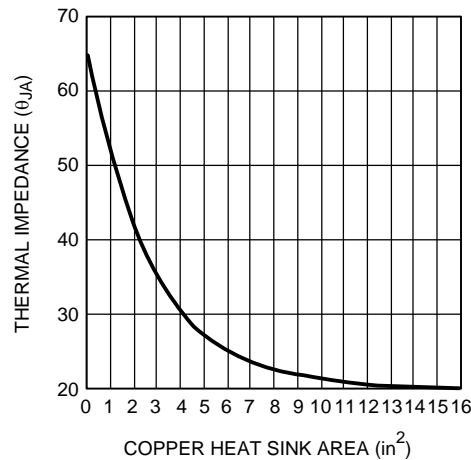

Figure 31. Thermal Resistance (Typ) for 5 Lead DDPAK/TO-263 Package Mounted on 1 Ounce of Copper
The DSDPAK/TO-263 package has excellent thermal characteristics. To minimize thermal impedance, its exposed die attach paddle should be soldered to a circuit board copper area for good heat dissipation. Figure 31 shows typical thermal resistance from junction to ambient as a function of the copper area. The DDPAK/TO-263's exposed die attach paddle is electrically connected to the V_{EE} power supply pin.
If a heat conductive copper plane has perfect thermal conduction (heat spreading) through the plane's total area, the temperature rise is inversely proportional to the total exposed area. PCB copper planes are, in that sense, an aid to convection. These planes, however, are not thick enough to ensure perfect heat conduction. Therefore, eventually a point of diminishing returns is reached where increasing copper area offers no additional heat conduction to the surrounding air. This is apparent in Figure 31. 2 oz copper boards will have decrease thermal resistance providing a better heat sink compared to 1oz. copper. Beyond 1oz or 2oz copper plane areas, external heatsinks are required. Ultimately, the 1oz copper area attains a nominal value of 20°C/W junction to ambient thermal resistance (θ_{JA}) under zero air flow.
5. θ_{JA} as a function of copper area in square inches is shown in Figure 31. Choose a copper area that will ensure the specified $T_{J(MAX)}$ for the calculated θ_{JA} . The maximum value of junction to ambient thermal resistance, θ_{JA} , is defined as:
4. Finally, choose the minimum value of copper area from Figure 31 based on the value for θ_{JA} .
Examining the Copper Area vs. θ_{JA} plot (see Figure 31) indicates that a thermal resistance of 21.4°C/W is possible with a $8\text{--}10\text{in}^2$ plane of one layer of 1oz copper. Other solutions include using two layers of 1oz copper or the use of 2oz copper. Higher dissipation may require forced air flow. As a safety margin, an extra 15% heat sinking capability is recommended.